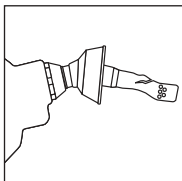

Figure 13
- Spout may be bent or damaged. (See Figure 13)